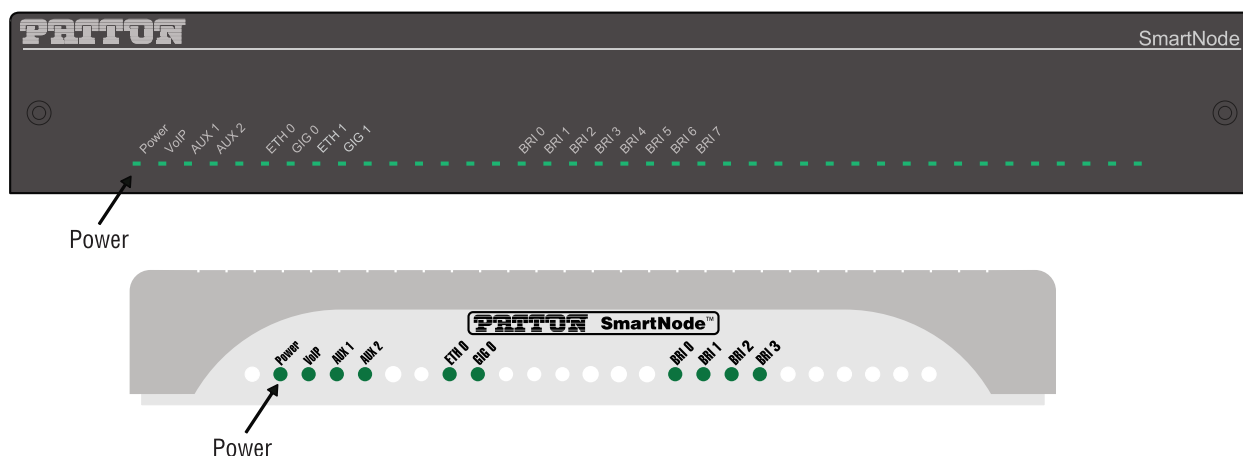

Figure 7. Power LED
4. Verify that the green *Power* LED is lit (see figure 7).